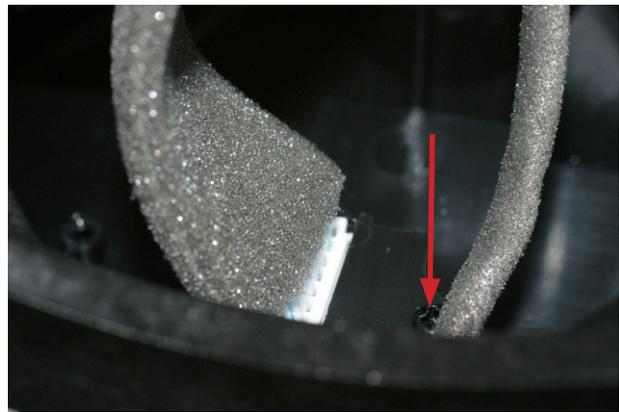

Figure 35
12.1 Perform procedures 2 thru 4. Remove the screw from the battery PCB Assy as indicated by a red arrow in figure 35.